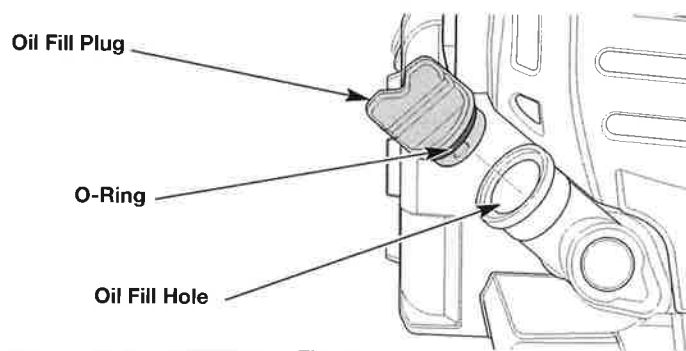

Fig. 7
4. Unscrew the oil fill plug (Fig. 7).
5. Pour the entire bottle into the oil fill hole (Fig. 7). **DO NOT** overfill. Refer to *Checking the Oil Level*.
NOTE: Make sure the O-ring is in place on the oil fill plug (Fig. 7).